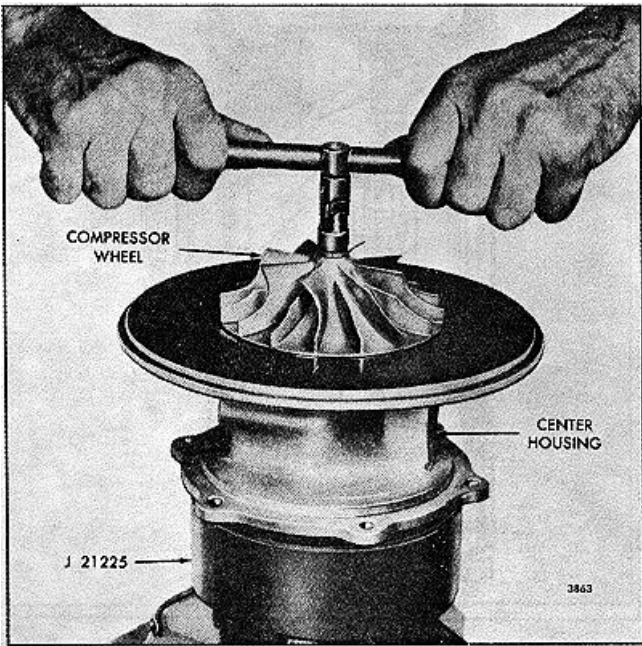

FIG. 15 - Removing Compressor Wheel Lock Nut
- a. Clamp the turbine wheel holding fixture J 21225 in a bench vise. Then place the center housing and rotating assembly in the holding fixture, turbine wheel down (Fig. 15), with the hexagon countersunk hole in the turbine wheel over the protruding hexagon head in the holding fixture. If required, use a suitable holding fixture as shown in Fig. 24.
remove the lock nut from the shaft with a double universal socket and a tee handle (Fig. 15).